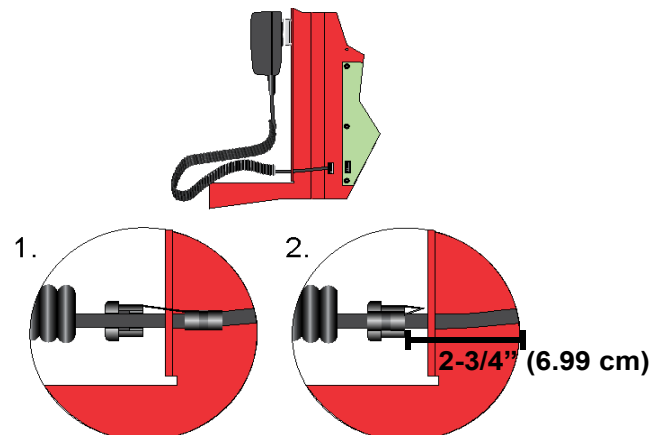

Figure 8 Strain Relief Clip Installation
3. Attach the Strain Relief Clip to the microphone cord. The Strain Relief Clip should have about 23/4" (6.98 cm) of microphone cord through it. Refer to Figure 8.